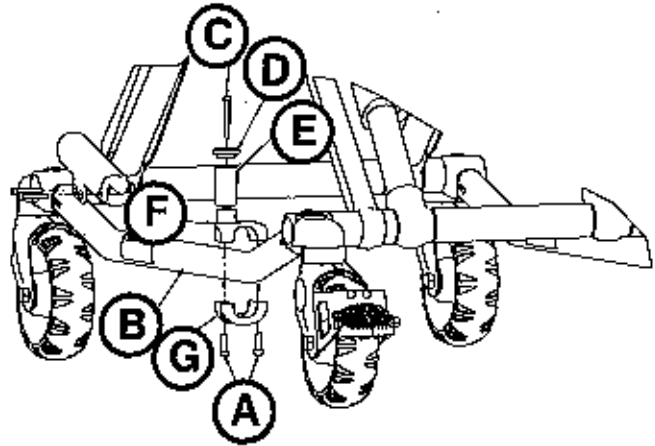

Figure 54
3. Using a T30 Torx driver, remove the two socket head cap screws (A) that secure the current cot retaining post to the base tube (B) (Figure 54). Discard the screws and cot retaining post.
4. Insert the button head cap screw (C) through the retaining post cap (D) and post tube (E), and then into the top pin bracket (F) (Figure 54).
5. Using a 5/32" hex wrench, tighten the button head cap screw (C) completely to secure the retaining post cap (D) and post tube (E) to the top pin bracket (F) (Figure 54). Using a torque wrench, torque the screw to 100-140 in-lb.
6. Assemble the cot retaining post across the base tube. Align the holes of the brackets and insert two socket head cap screws (A) into the threaded holes of the bottom pin bracket (G) (Figure 54).